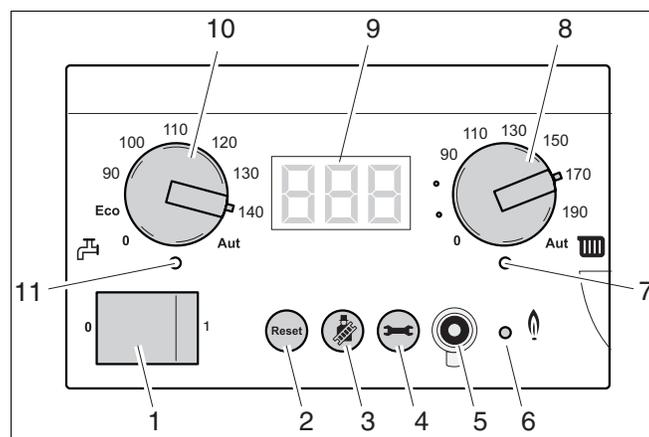

Fig. 95 BC10 basic controller
- Switch ON the heating system by pressing the main switch on the BC10 basic controller (fig. 95, pos. 1).
- Set the space heating water temperature knob (fig. 95, pos. 8) and the DHW temperature knob (fig. 95, pos. 10) to the maximum temperatures.
- Set the space heating water temperature knob (fig. 95, pos. 8) and the DHW temperature knob (fig. 95, pos. 10) to the required temperatures.